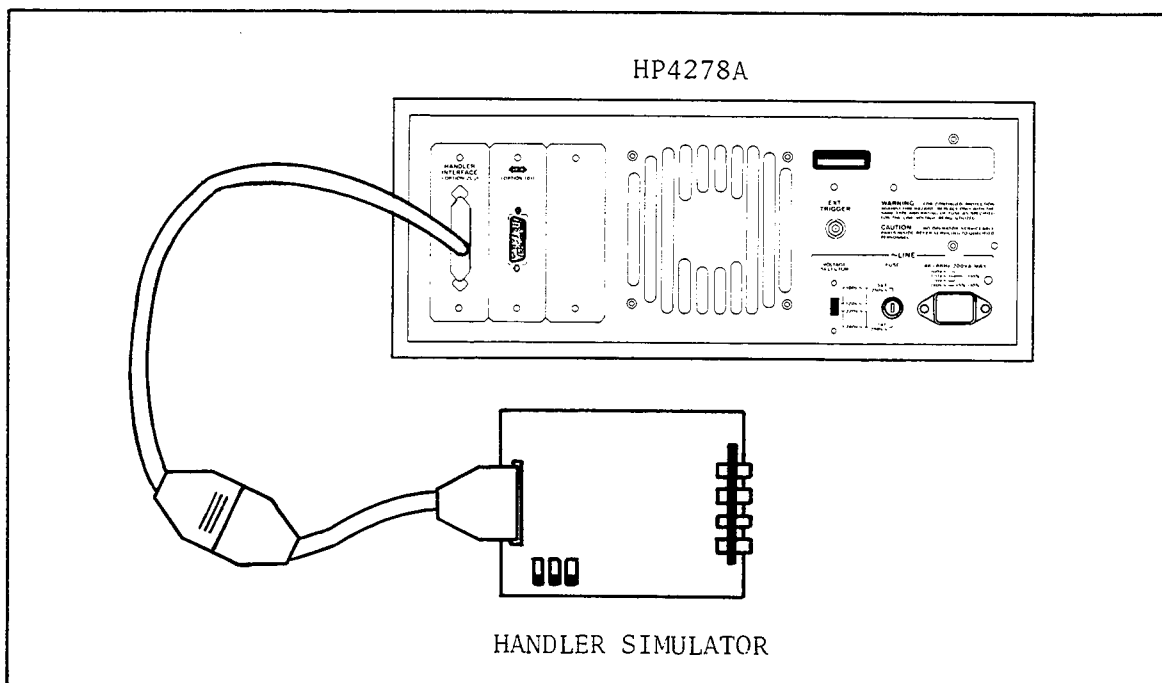

Figure 6-16. Handler Interface Test Setup (Option 202)
6. Connect the handler interface connector on the 4278A's rear panel to the handler simulator as shown in Figure 6-16.
6. Use the appropriate power leads and clips to apply +5 V to the scanner simulator, by making connections between TP2(GND) on the scanner simulator and TP5(GND) on the scanner interface board. Connect between TP1(5 V) on the scanner simulator, and TP4(VCC) on the scanner interface board. Figure 6-16 shows the location of TP4 and TP5 on the scanner interface board.